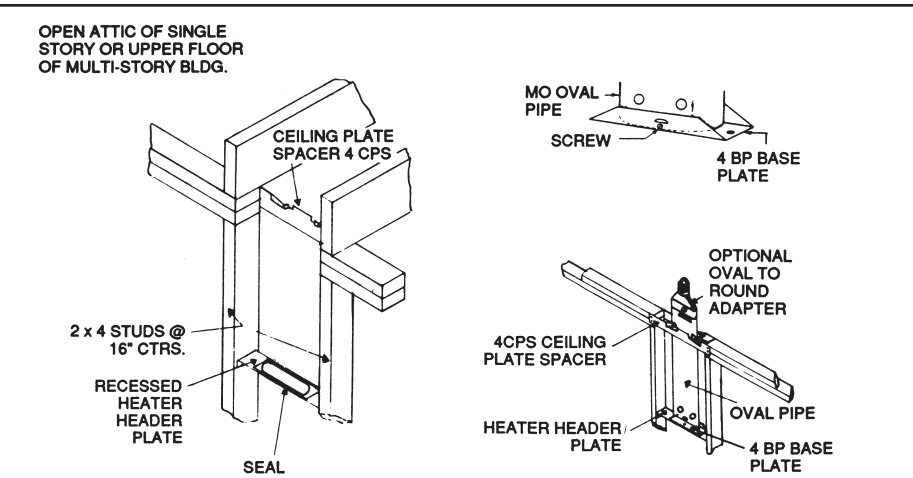

FIGURE 7
7. If the installation is with a recessed heater, the 4MOK installation kit is required. At the top of the recessed heater mounted in the stud wall, the gasket is applied under the base plate from the 4MOK. The base plate is screwed to the heater outlet. The base plate has provisions to allow 4BW vent to snap in place. At the ceiling level, the ceiling plate spacers are mounted to maintain proper clearances to combustibles. At this point the installation is the same as explained earlier (See Figure 7).